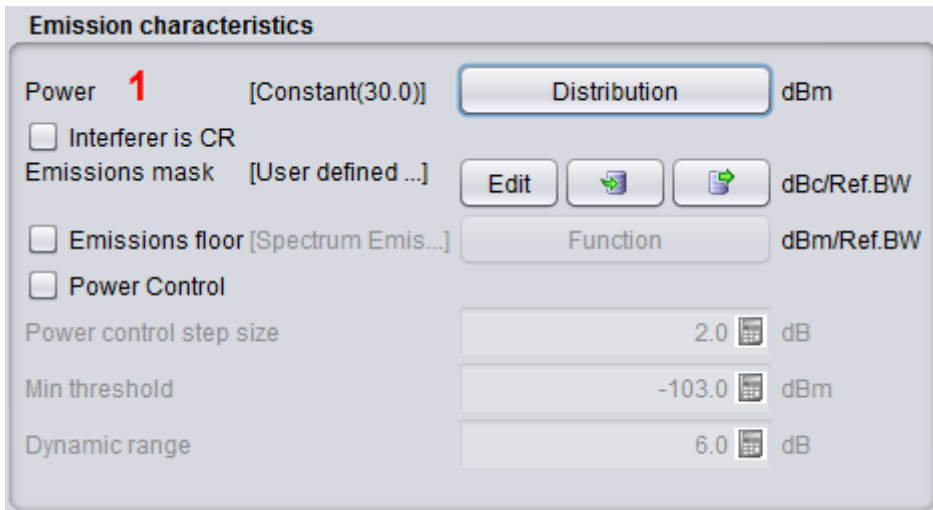

Figure 75: Example of setting up the victim link transmitter
- The power is 30 dBm; (#1 of Figure 75)